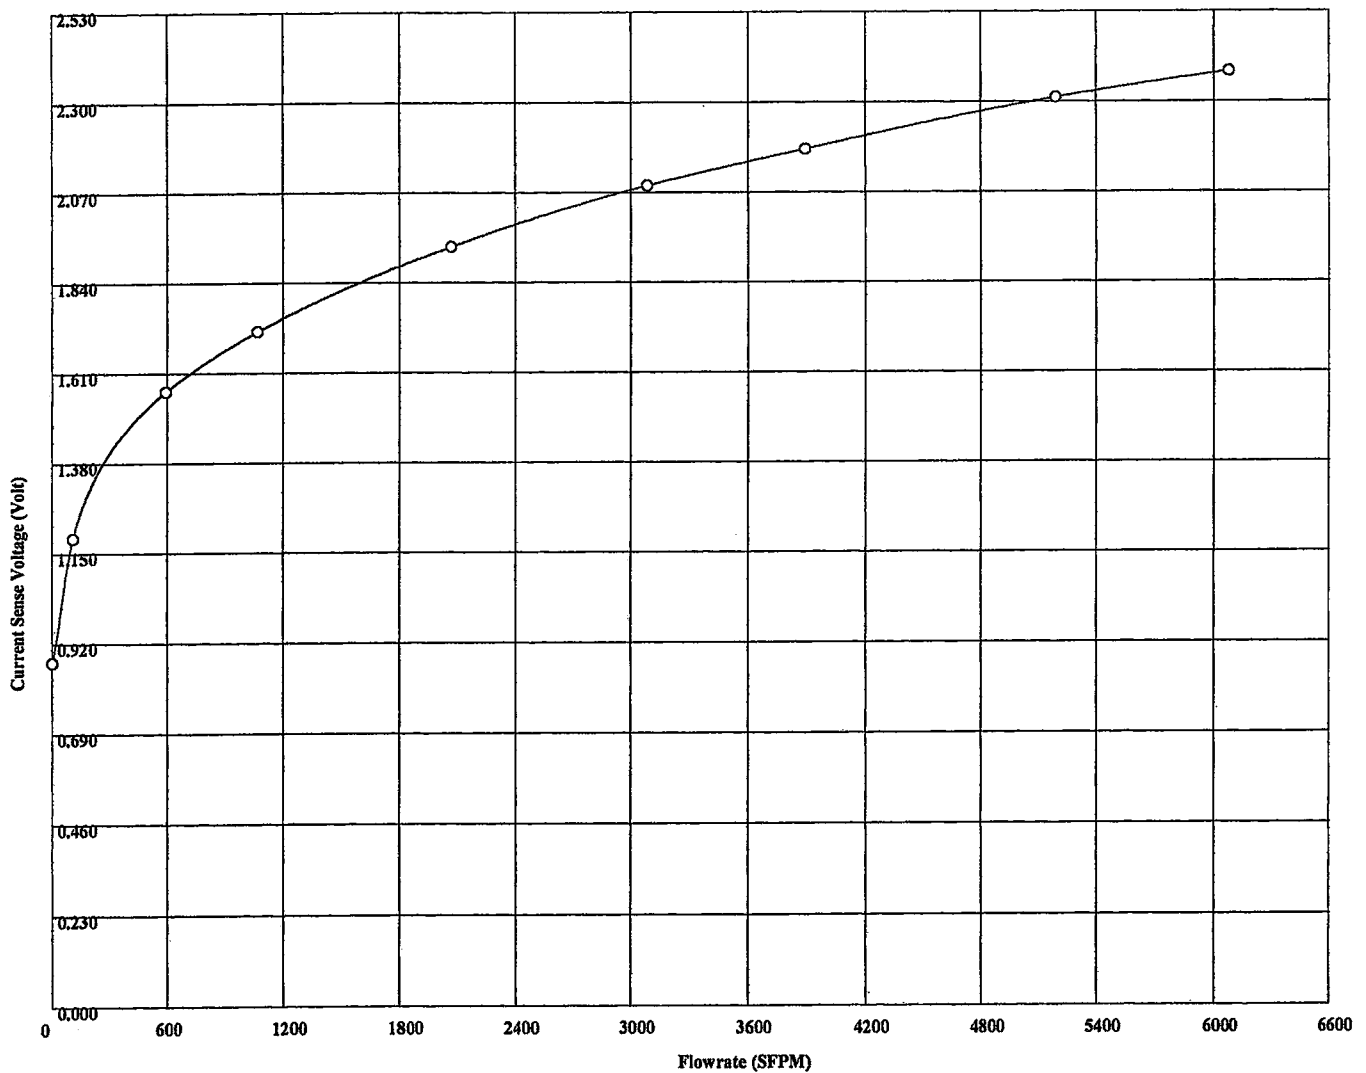

Figure 4-2 Calibration Curve Example
- **Flow Element Calibration Curve** – a graphical representation of the results, with a curve fitted to the individual measurement points. See Figure 4-2.